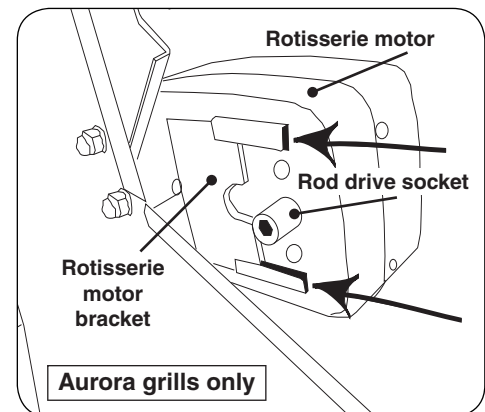

Fig. 3-2 Install motor (3603G, 3606G)
3. Slide the rotisserie motor fully onto the motor bracket (right side, Fig. 3-2).
1. Remove the four screws from the motor casing. Discard the four washers. Align the **(A)** motor bracket over the exposed holes. Replace and tighten the four screws. See Fig. 3-2.